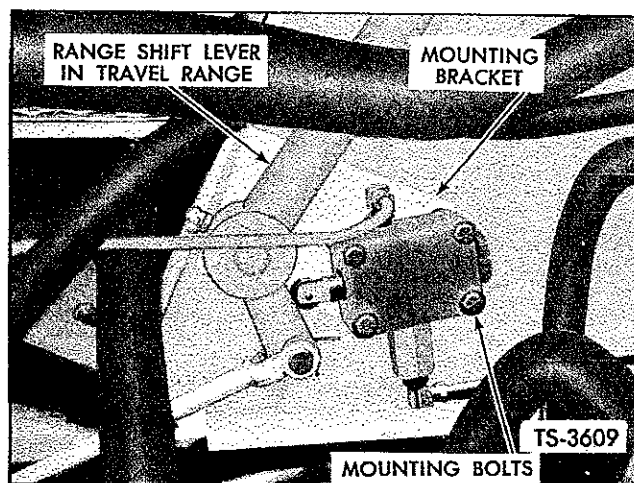

Fig. 37. Adjust Transmission Lockout Control Valve
3. Adjust for proper engagement by moving control valve in slots of mounting bracket as shown in Figure 37, or by readjusting range shift lever travel.